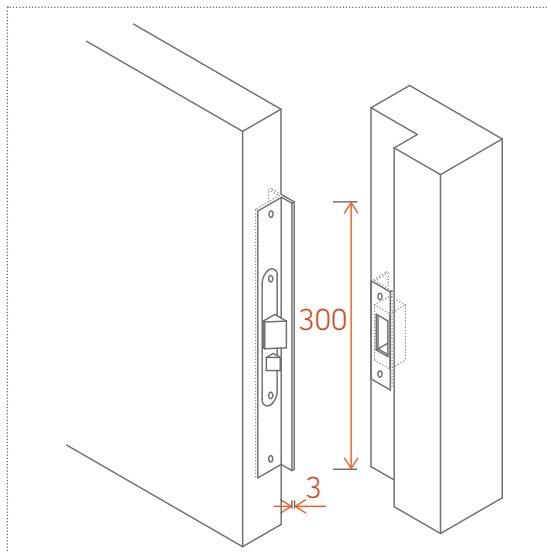

Figure 3: Cover plate
- A **cover plate** is defined as a steel or brass T-profile with a length of at least 30 cm and a thickness of 3 mm installed at the lock of a non-rebated door (figure 3).